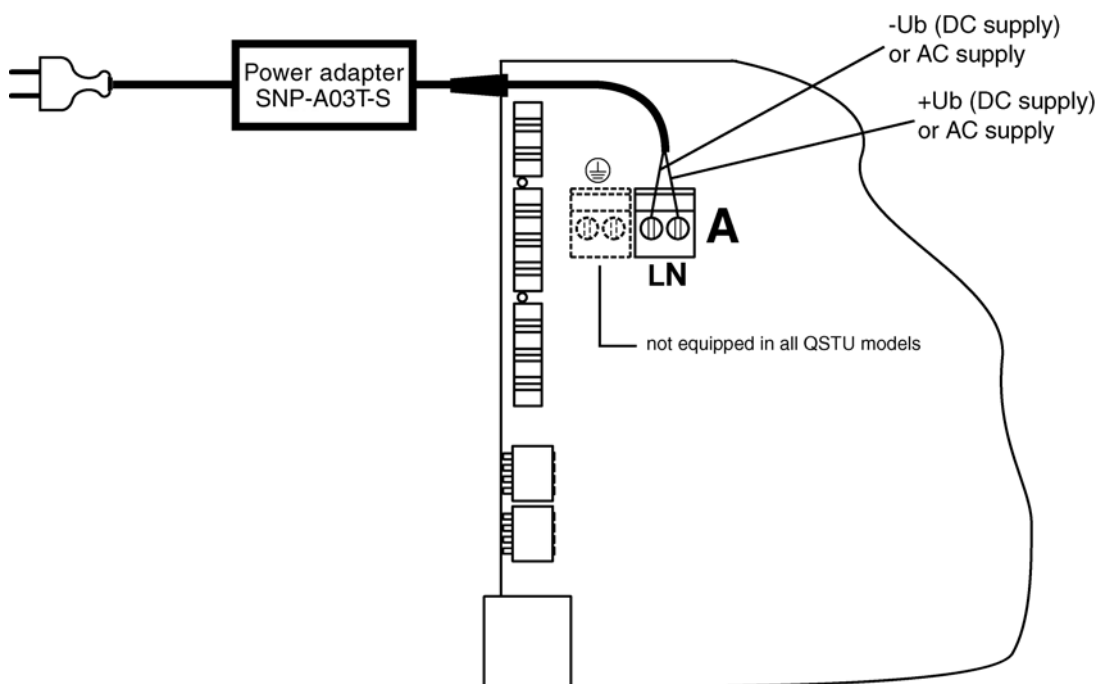

Fig. 2.134 Connecting desktop power adapter SNP-A03T-S
7. Connect the desktop power adapter according to Fig. 2.134 (**Warning:** You must not bend the board)